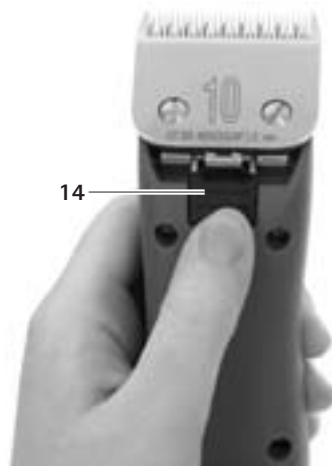

Fig. 3
- Press blade lock **14**, see Fig. 3.